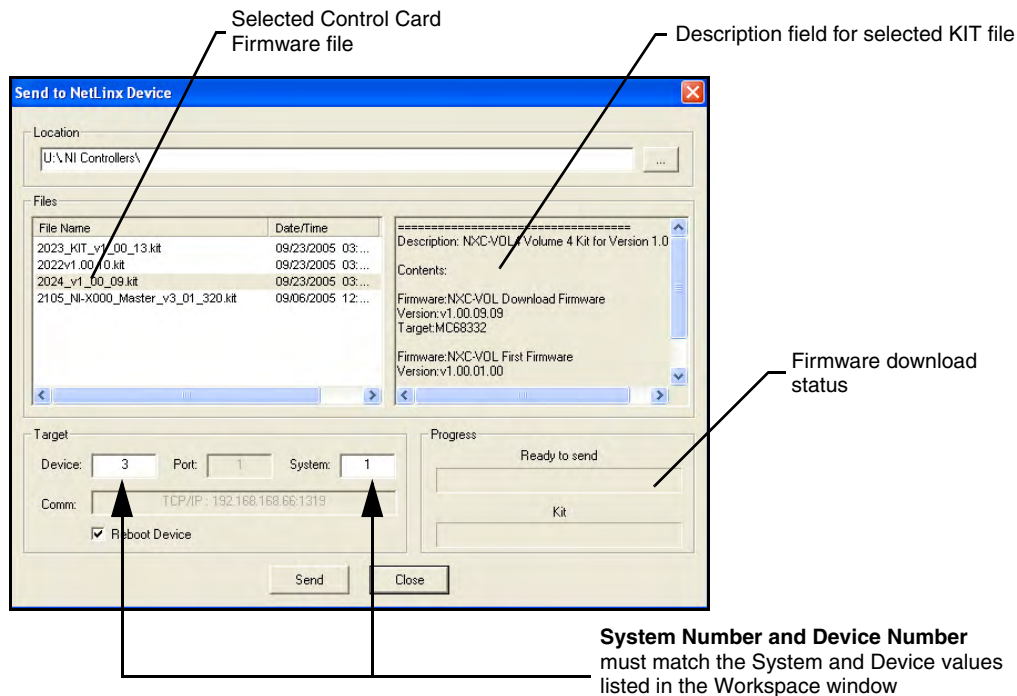

FIG. 36 Select Control Card firmware file for download page (via IP)
8. Select **Tools > Firmware Transfers > Send to NetLinx Device** from the Main menu to open the Send to NetLinx Device dialog (FIG. 36). Verify the target's **Device** and **System** numbers matches the value listed within the System folder in the Workspace window.
9. Select the Control Card's KIT file from the **Files** section (FIG. 36) (*in our above example we chose to update the NXC-VOL4 card*).
13. Click **Send** to begin the transfer. The file transfer progress is indicated on the bottom-right of the dialog (FIG. 36).